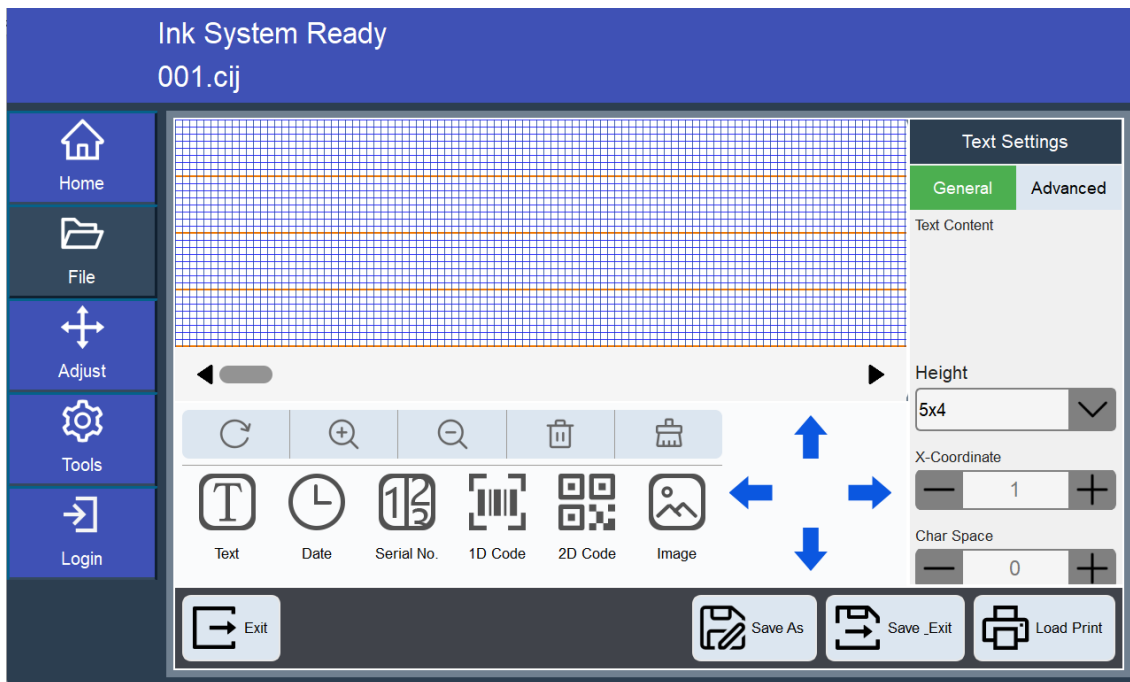

Figure 3-3 Message Editor Interface
3. Enter the file name and tap , and the system will open the message editor interface, as shown in Figure 3-3 Message Editor Interface. After configuring and editing the content based on your requirements, you can tap  to save the file, or tap  to exit without saving and return to the file management interface; tapping [Home] will return to the main interface.